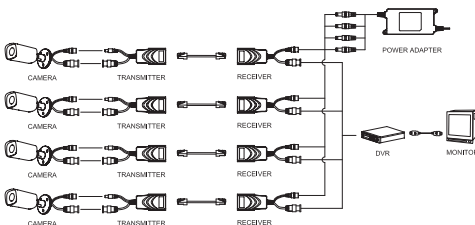

Figure 3-1
Step 1 Connect the ports of passive video balun, as shown in Figure 3-1.